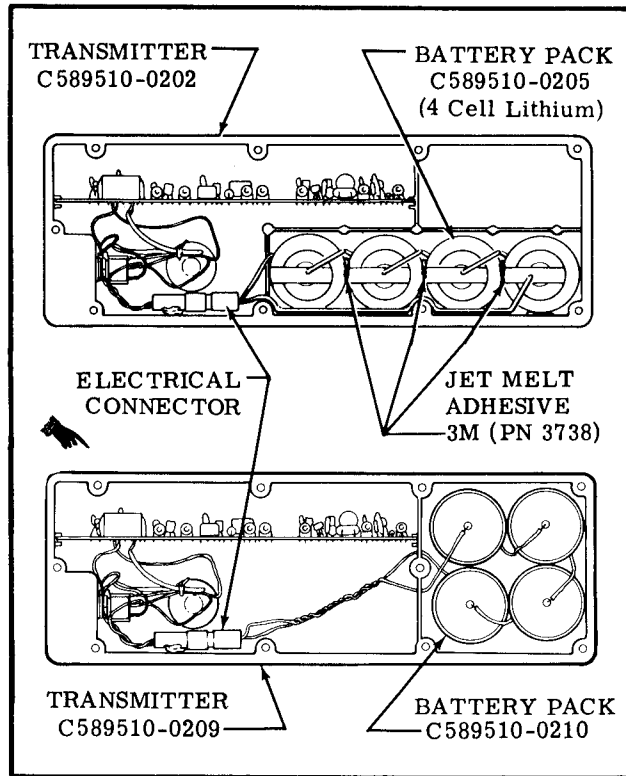

Figure 16-15. Lithium 4 Cell Battery Pack Installations
16-89. DESCRIPTION. The ELT is a self-contained, solid state unit, having its own power supply, with an externally mounted antenna. The C589510-0209 transmitter is designed to transmit simultaneously on dual emergency frequencies of 121.5 and 243.0 Megahertz. The C589510-0211 transmitter used for Canadian registry, operates on 121.5 only. The unit is mounted in the tailcone, aft of the baggage curtain on the right hand side. The transmitters are designed to provide a broadcast tone that is audio modulated in a swept manner over the range of 1600 to 300 Hz in a distant, easily recognizable distress signal for reception by search and rescue personnel and others monitoring the emergency frequencies. Power is supplied to the transmitter by a battery-pack which has the service life of the batteries placarded on the batteries and also on the outside end of the transmitter. ELT's thru early 1974 models, were equipped with a battery-pack containing six magnesium "D" size dry cell batteries wired in series. (See figure 16-15) Mid 1974 thru early 1975, ELT's are equipped with a battery pack containing four "in-line" lithium "D" batteries wired in series. Early 1975 and on ELT's are equipped with a battery-pack containing four lithium "D" size batteries which are stacked in two's (See figure 16-15). The ELT exhibits line of sight transmission characteristics which correspond approximately to 100 miles at a search altitude of 10,000 feet. When battery inspection and replacement schedules are adhered to, the transmitter will broadcast an emergency signal at rated power (75 MW-minimum), for a continuous period of time as listed in the following table.
#### 16-94. REMOVAL AND INSTALLATION OF LITHIUM FOUR (4) CELL BATTERY-PACK. (Refer to figure 16-15.)
- e. Connect the electrical connector as shown in figure 16-15.